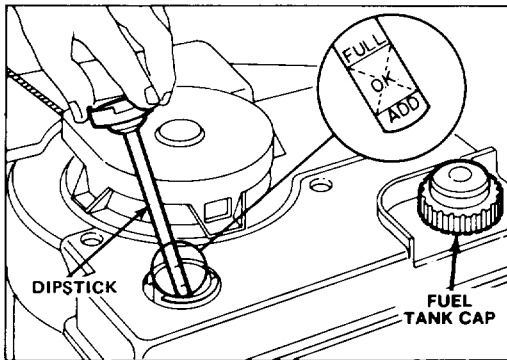

Figure 4
3. Wipe dipstick and insert it into filler neck. Rotate cap clockwise. Then remove dipstick and check level of oil (Fig. 4). If level is low, add only enough oil to raise level to FULL mark on dipstick. **DO NOT FILL ABOVE FULL MARK BECAUSE ENGINE COULD BE DAMAGED WHEN STARTED. POUR OIL SLOWLY.**
1. Clean around fuel tank cap and remove cap from tank (Fig. 4). Using unleaded gasoline, fill fuel tank to within 1/2 inch (13 mm) from top of tank.